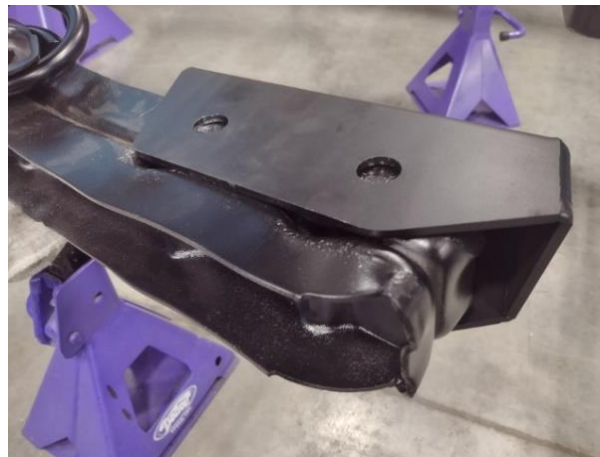

Figure 8 - Install Lower Shock Mount
11. Slide the lower shock mount onto the inboard side of the left hand trailing arm until the U-bolt holes in the lower shock mount line up with the U-bolt holes in the trailing arm (Figure 8).